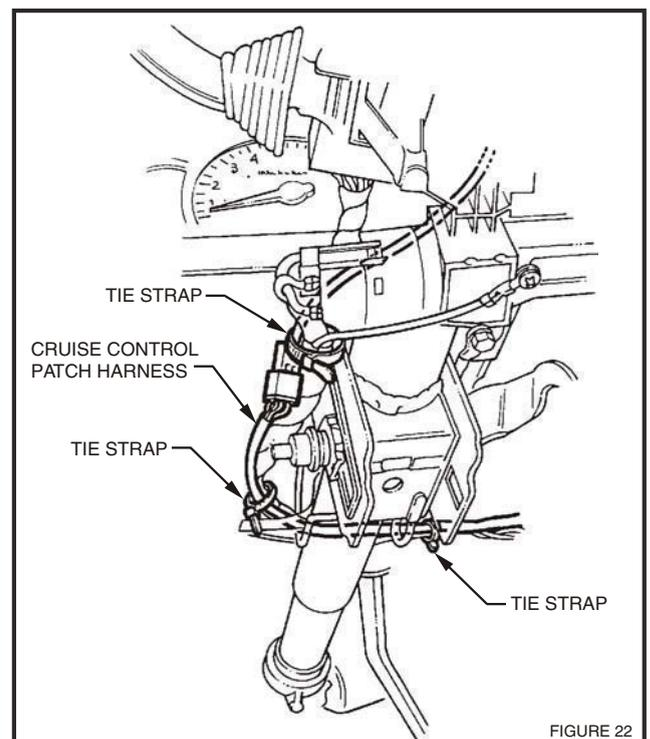

FIGURE 22
50. Secure patch harness from fuse panel to stalk switch with supplied tie straps, refer fig. 22.